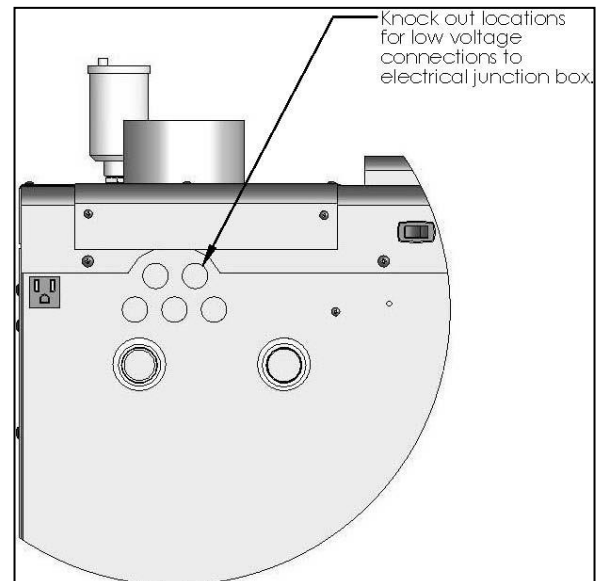

Figure 24 – Knockout Locations
1. All low voltage cables should enter the electrical junction box through the provided knock out holes as shown in Figure 24.